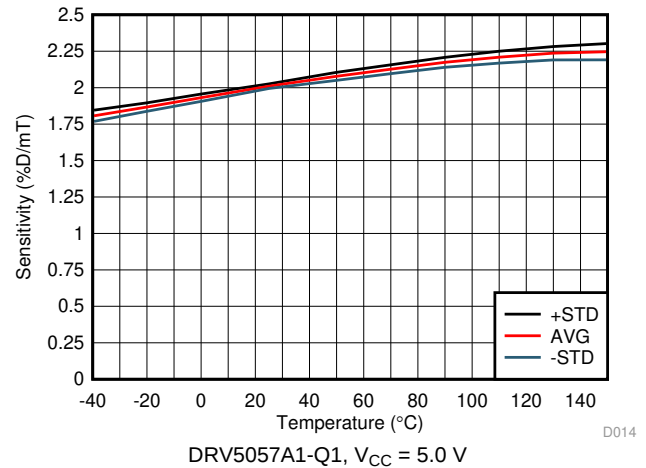

图 4. Sensitivity vs Temperature
(1) This unit is a percentage of duty cycle.
(2) B is the applied magnetic flux density.
(3) See the Sensitivity Linearity section.
(4) B_L describes the minimum linear sensing range at 25°C taking into account the maximum V_Q and sensitivity tolerances.
(5) S_{TC} describes the rate the device increases Sensitivity with temperature. For more information, see the Sensitivity Temperature Compensation for Magnets section and Figure 4 to Figure 11.